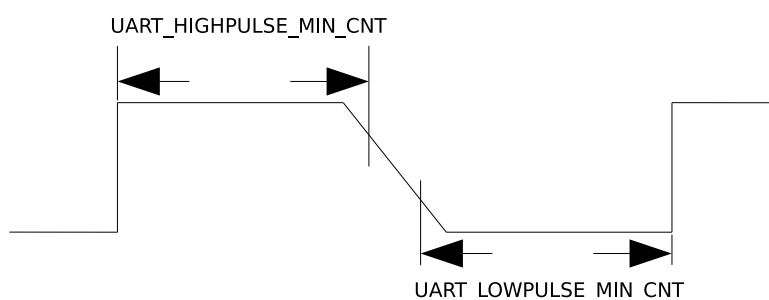

Figure 19-5. The Timing Diagram of Weak UART Signals Along Falling Edges
- If UART signals are weak along falling edges as shown in Figure 19-5, which leads to inaccurate average of `UART_LOWPULSE_MIN_CNT` and `UART_HIGHPULSE_MIN_CNT`, use `UART_POSEDGE_MIN_CNT` to determine the transmitter's baud rate as follows: